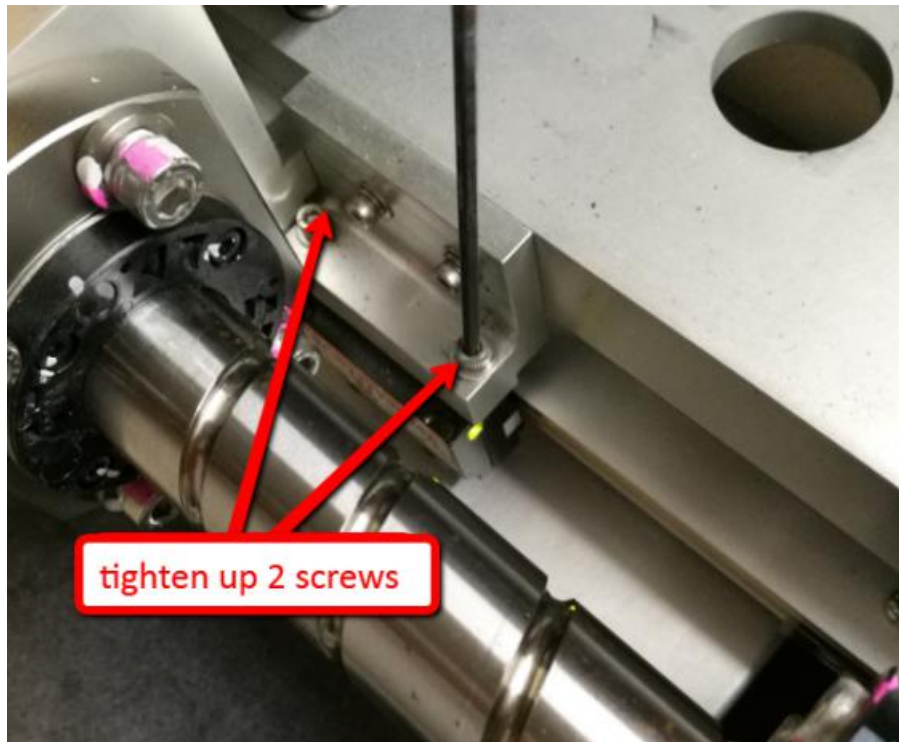

Figure 21
1. Assemble X-Axis Encoder to the bracket and tighten up 2 screws as shown in Figure 21.